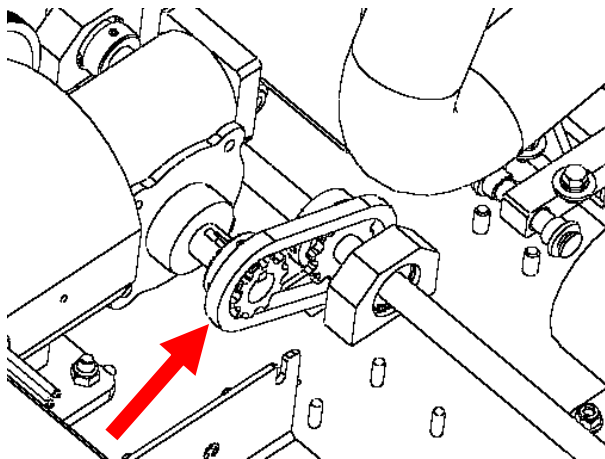

Figure 4-10
2. Locate the drive chain along the left side of the drive shaft and the oil transfer roller chain at the left rear of the machine, as shown in Figures 4-10 and 4-11.